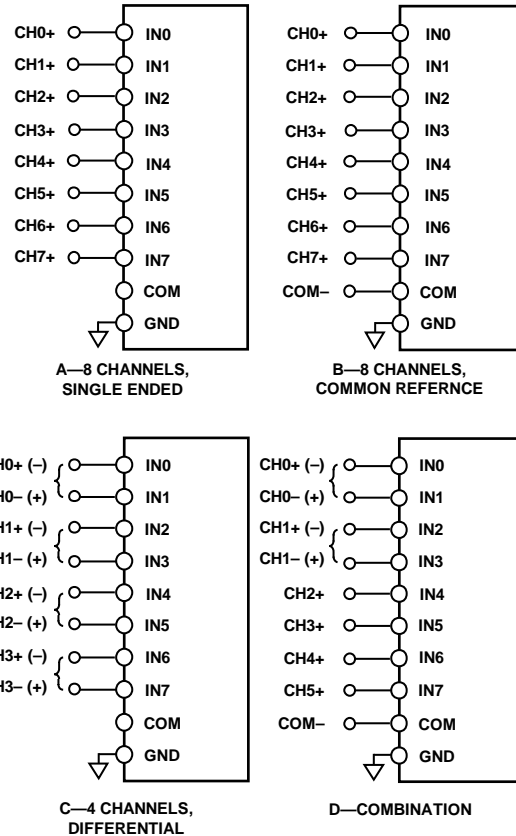

Figure 32. Multiplexed Analog Input Configurations
Figure 32 shows the different methods for configuring the analog inputs with the configuration register, CFG[12:10]. Refer to the Configuration Register, CFG section for more details.
- Figure 32 (A), single-ended referenced to system ground; CFG[12:10] = 111₂. In this configuration, all inputs (IN[7:0]) have a range of GND to V_{REF} .
- Figure 32 (B), bipolar differential with a common reference point; COM = $V_{REF}/2$; CFG[12:10] = 010₂. Unipolar differential with COM connected to a ground sense; CFG[12:10] = 110₂. In this configuration, all inputs IN[7:0] have a range of GND to V_{REF} .
- Figure 32 (C), bipolar differential pairs with the negative input channel referenced to $V_{REF}/2$; CFG[12:10] = 00X₂. Unipolar differential pairs with the negative input channel referenced to a ground sense; CFG[12:10] = 10X₂. In these configurations, the positive input channels have the range of GND to V_{REF} . The negative input channels are a sense referred to $V_{REF}/2$ for bipolar pairs, or GND for unipolar pairs. The positive channel is configured with CFG[9:7]. If CFG[9:7] is even, then IN0, IN2, IN4, and IN6 are used. If CFG[9:7] is odd, then IN1, IN3, IN5, and IN7 are used, as indicated by the channels with parentheses in Figure 32 (C). For example, for IN0/IN1 pairs with the positive channel on IN0, CFG[9:7] = 000₂. For IN4/IN5 pairs with the positive channel on IN5, CFG[9:7] = 101₂. Note that for the sequencer, detailed in the Channel Sequencer section, the positive channels are always IN0, IN2, IN4, and IN6.
- Figure 32 (D), inputs configured in any of the preceding combinations (showing that the AD7682/AD7689 can be configured dynamically).